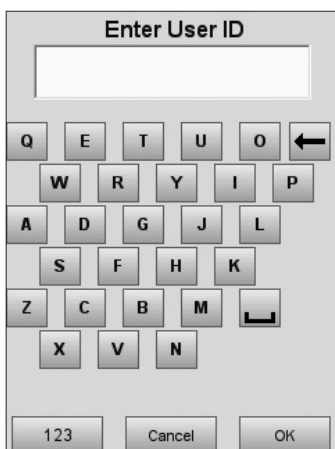

Fig. 2-15 Enter User ID
- If **<Non Secure User ID Entry>** is enabled in the security settings (see Section 3.2.3), you will be asked to enter the user ID (Fig. 2-15). Depending on security settings, user access to running Hb calibrators may be restricted.